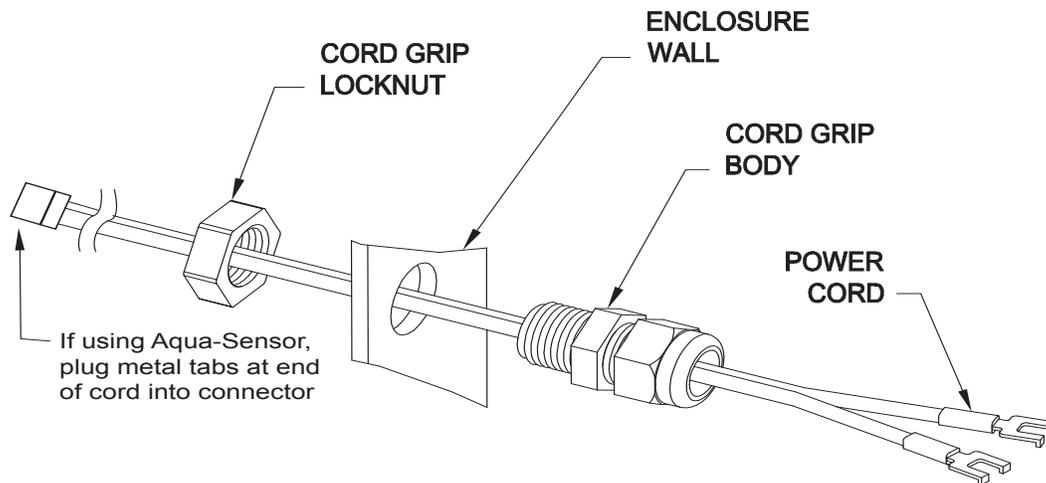

Figure 12. 24 V Power Connection
4. Next, run the spade terminals through a hole in the side of the controller FROM THE INSIDE (see Figure 12).